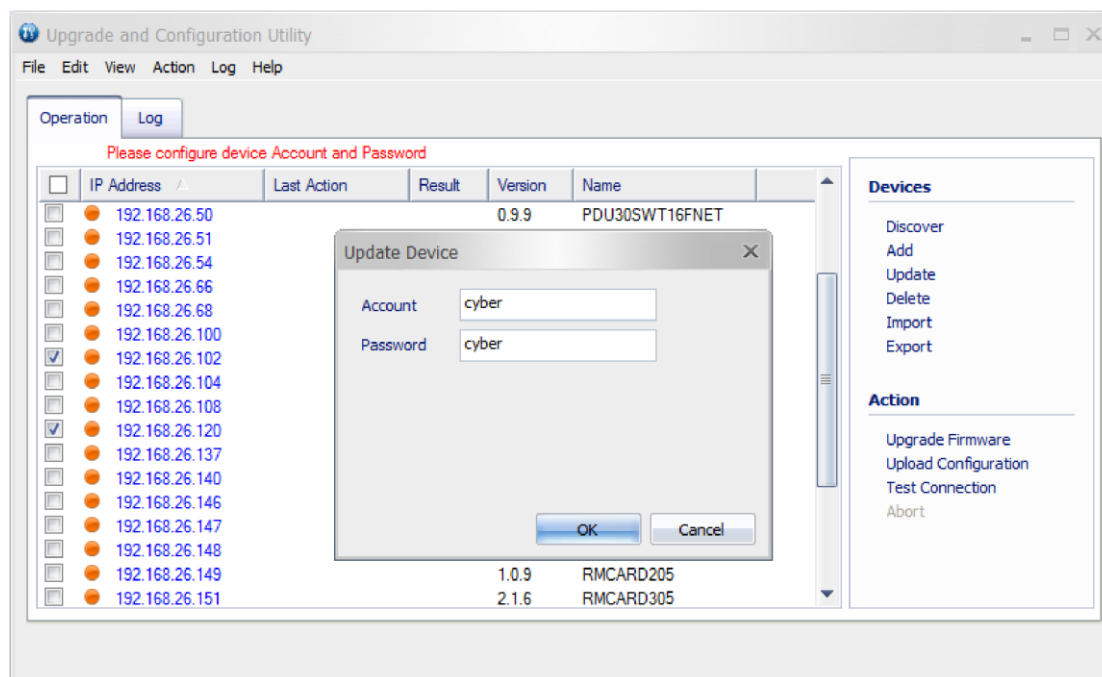

Figure 3.
5. Make sure Account and Password are valid on selected devices (Shown in Figure 3).